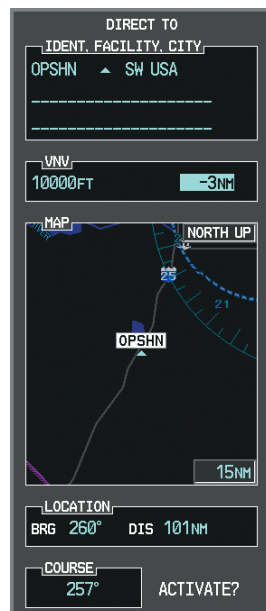

Figure 5-118 Enter VNV Offset Distance
f) Press the **ENT** Key. The cursor is now displayed in the VNV offset field as shown in Figure 5-118.